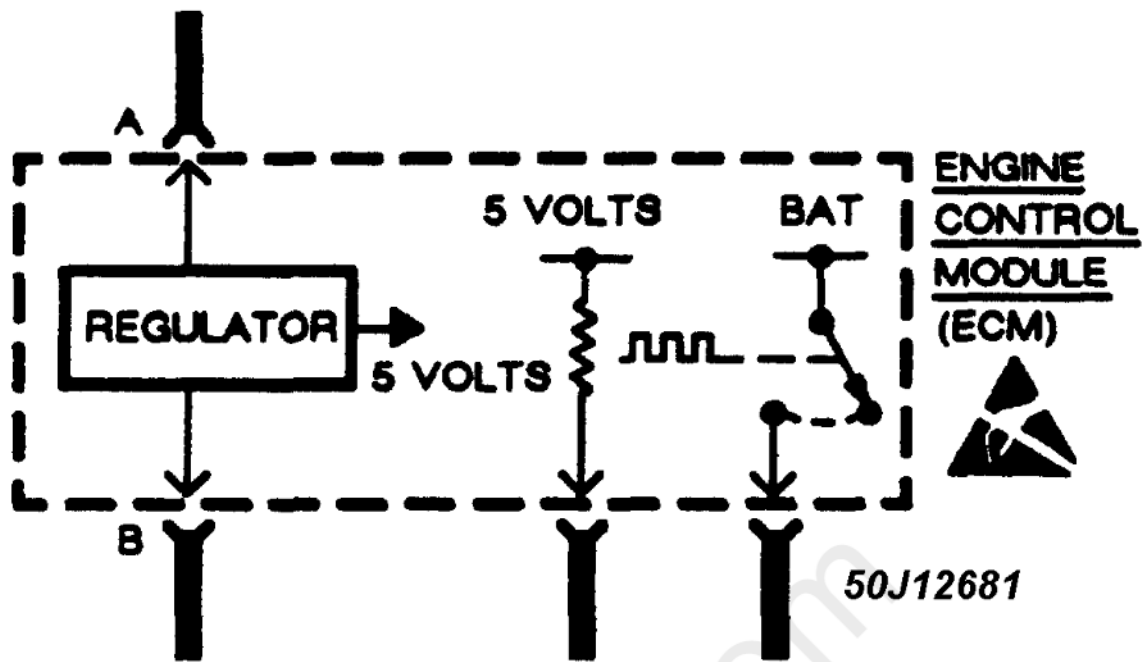

Fig. 2: Sample Schematic Showing Typical ESD Sensitive Device
1. Solid State circuits in electronic devices are shown greatly simplified in schematics. See Fig. 2. Due to the simplification of the electronic devices on the schematic, resistance measurements could be misleading or could lead to an electrostatic discharge. Always follow the recommended diagnostic procedure.